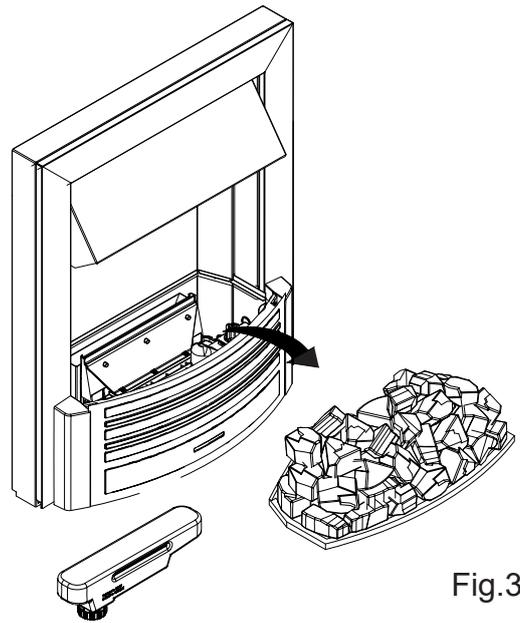

Fig.3
1. Leaving the flame effect on, lift out the fuelbed and water tank. (See Fig.3)
2. Gently lift out the fuelbed and set aside carefully. (See Fig.3)
2. Gently lift out the fuelbed and place carefully on the ground. (See Fig.3)